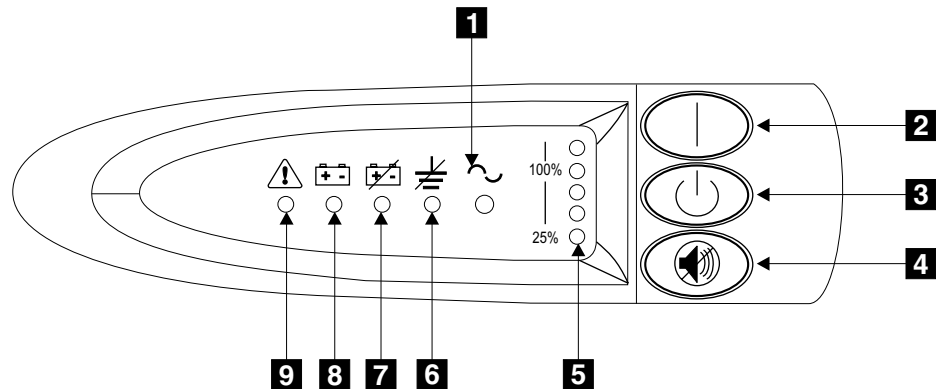

Figure 97. Uninterruptible power supply front panel assembly
1. At the front of the uninterruptible power supply, press and hold the off button **3** for approximately five seconds or until the long beep stops. See Figure 97.